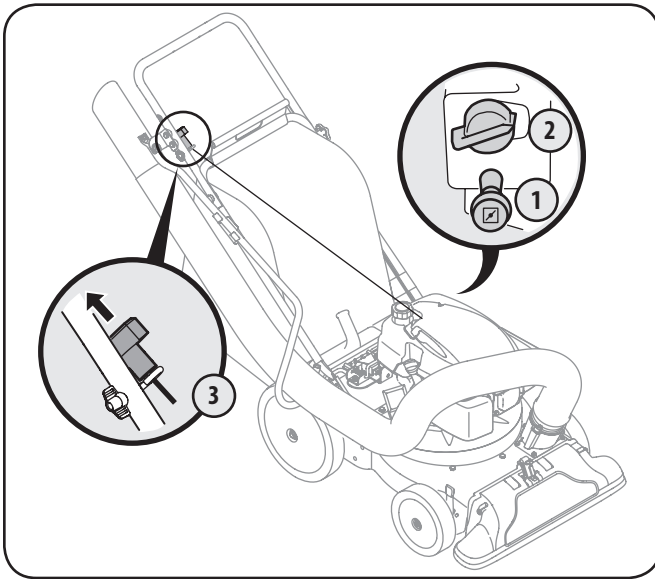

Figure 5-1
1. Pull out the choke knob located on the engine. See Fig. 5-1 inset.
2. Turn the engine switch to on. See Fig. 5-1 inset.
3. Pull the starter grip lightly until resistance is felt, then pull rapidly to overcome compression, prevent kickback and start the engine. See Fig. 5-1. If engine does not start after ten seconds of repeated pulls, wait a few minutes and repeat.